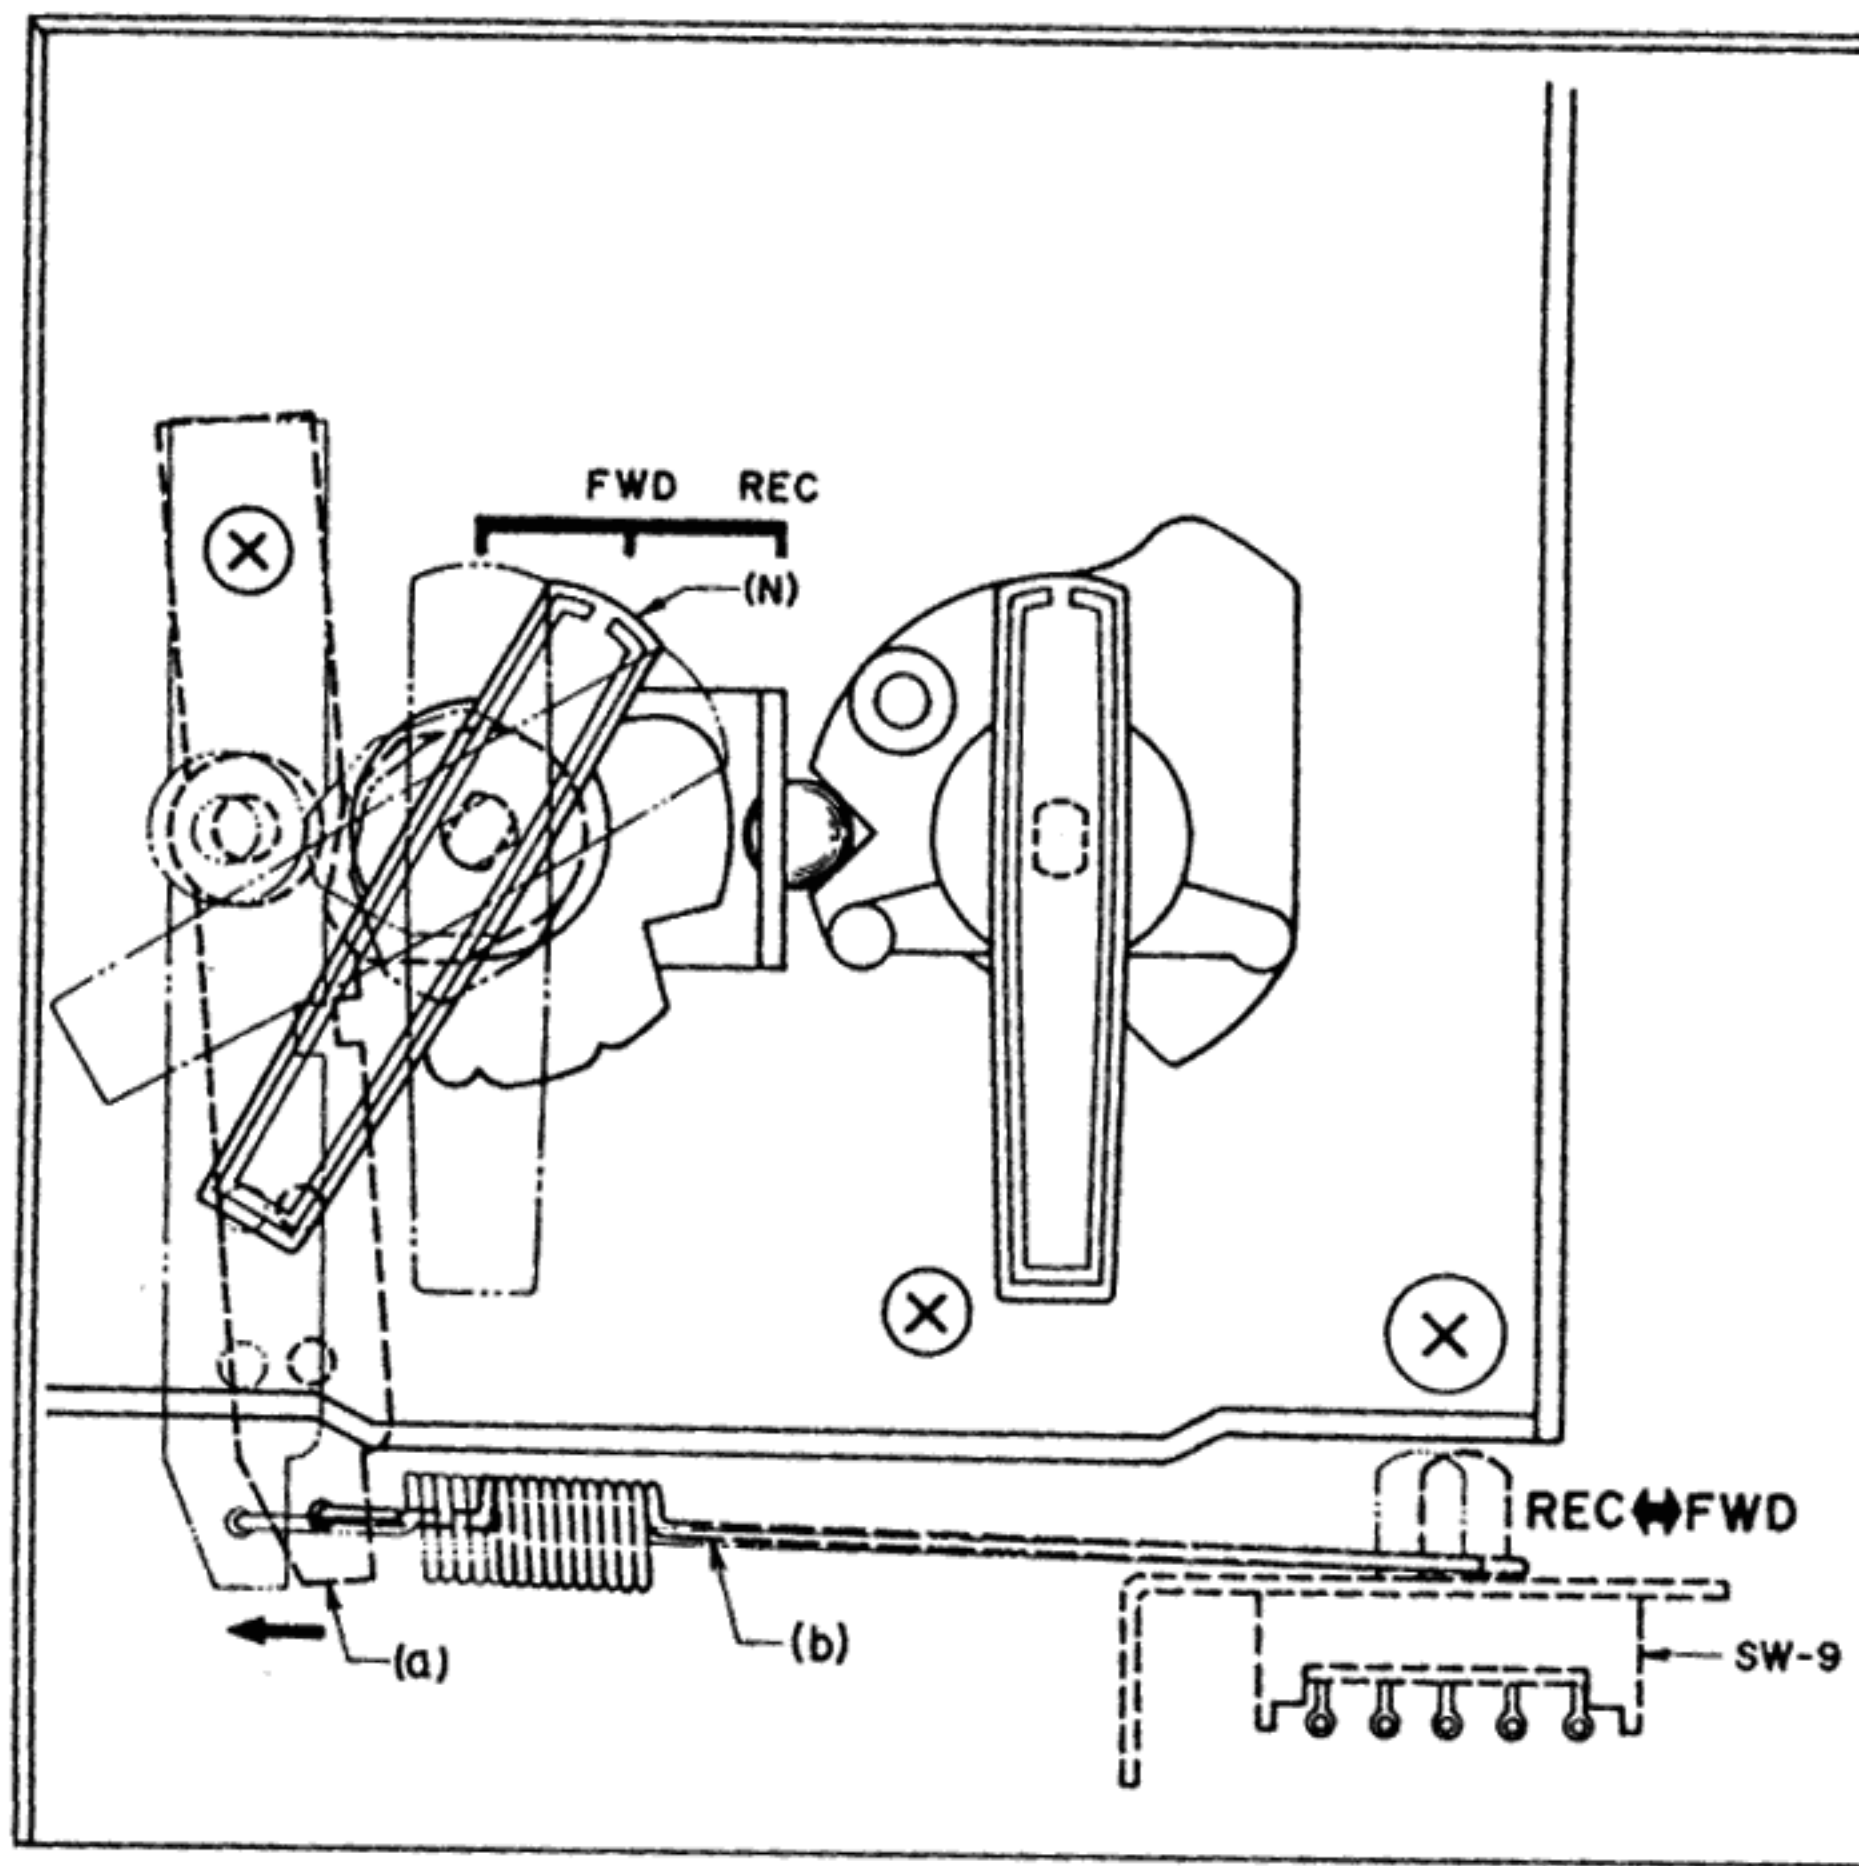

Fig. 8
4. RECORDING/PLAYBACK CHANGING MECHANISM (See Figs. 8, 9)